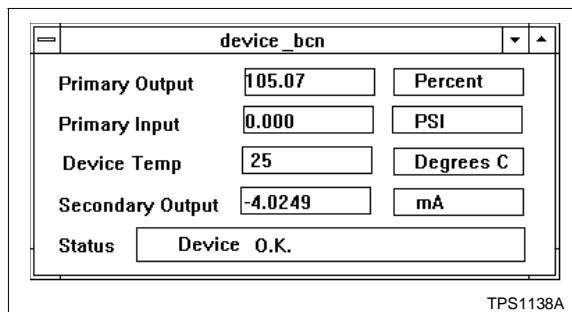

Figure 3-6. Process Variable Window
2. Select *Monitor*, then *Process Variables* (CTRL-M). The process variables window shown in Figure 3-6 displays. Table 3-10 describes the fields.